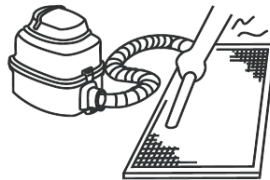

Figure 13.2
- **a.** The air intake side should face up when using a vacuum cleaner. (Refer to Figure 13.2)